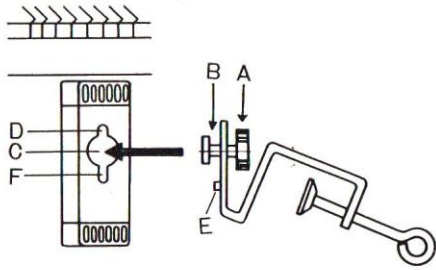

Fig. 4
Remove the table clamps from the accessory box. Raise the front of the knitter, insert the head of screw (B) into the aperture (c). (See Fig.4)